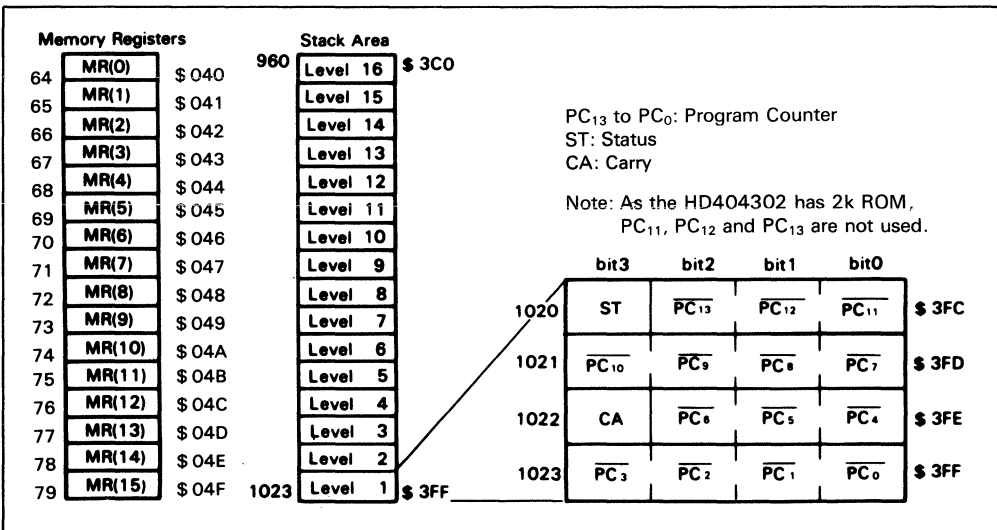

Figure 4. Configuration of Memory Register, Stack Area and Stack Position
Data Area (\$040 to \$09F): 16 digits of \$040 through \$09F are called memory registers (MR) and are accessible by LAMR and XMRA instructions (figure 4).
Stack Area (\$3C0 to \$3FF): Locations \$3C0 through \$3FF are reserved for stack area to save the contents of the program counter (PC), status (ST) and carry (CA) when subroutine call (CAL-instruction, CALL-instruction) and interrupts are serviced. This area can be used as a 16 nesting level stack in which one level requires 4 digits. Figure 4 shows the save condition. The program counter is restored by RTN and RTNI instructions. Status and carry are restored only by RTNI instruction. This area, when not used for a stack, is available as a data area.